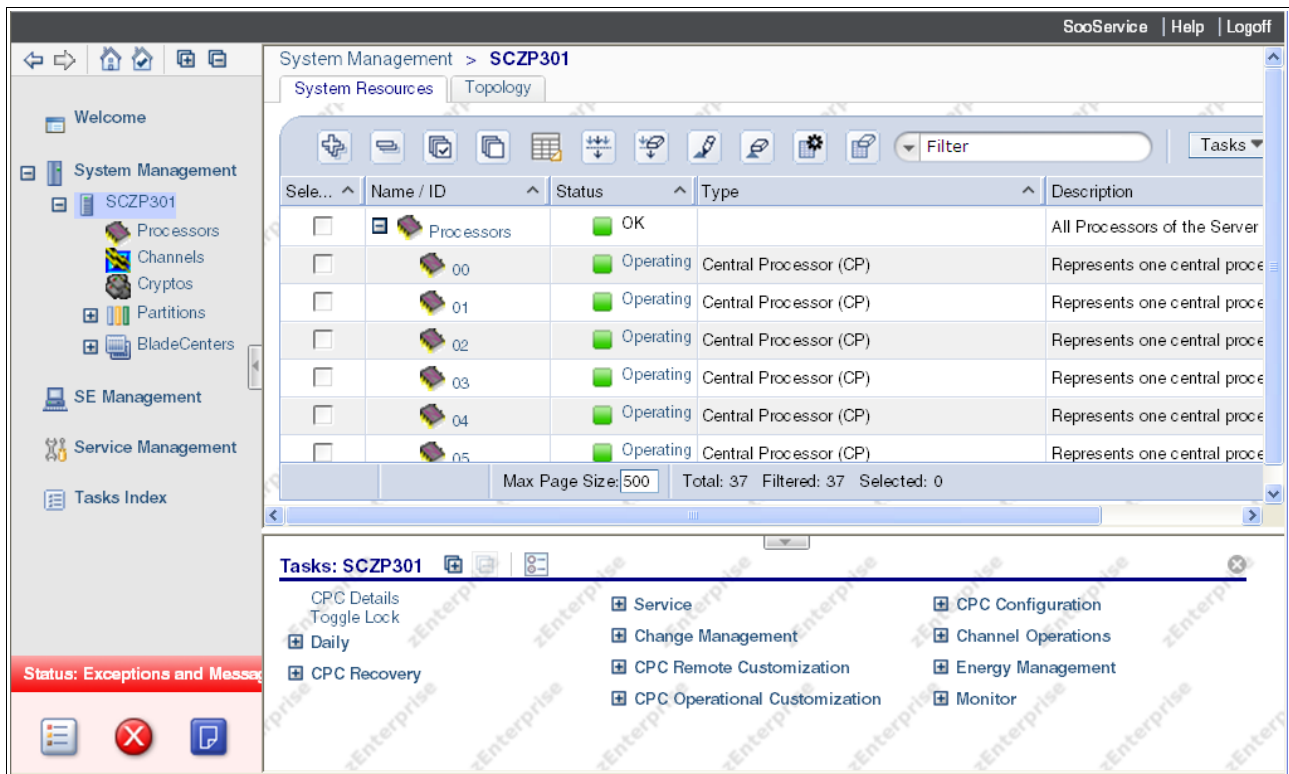

Figure E-2 SE panel after SOO
5. Figure E-2 is SE panel after SOO performed in Tree Style User Interface.